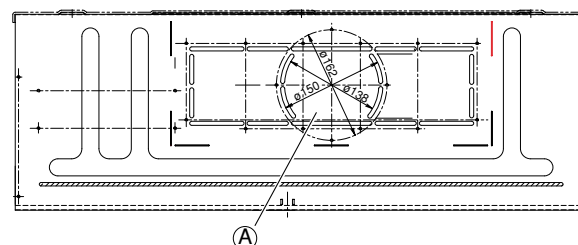

Fig. 3-38
- (5) If the system requires fresh air to be drawn into the unit, cut and remove the insulation (both externally and internally) at the location shown as (A) in Fig. 3-38.